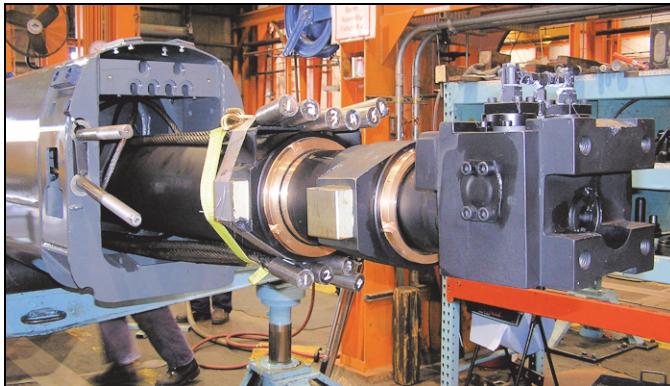

FIGURE 4-18
62. Duct tape the six tele 3 extend cables (150) to the top of the cylinder (see Figure 4-18).